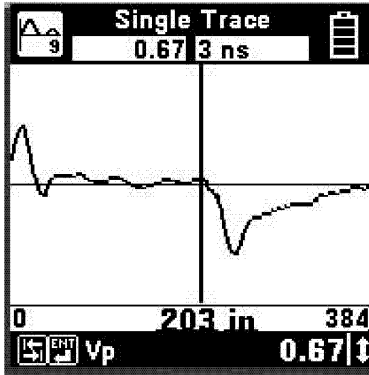

Figure 23. AST900 Short Circuit Display
- (1) Any open circuit will show up as a peak on the screen.
- (2) A complete open will be the tallest peak displayed.
- (3) No events can be seen past a complete open.
- m. Short Circuit (Figure 23).